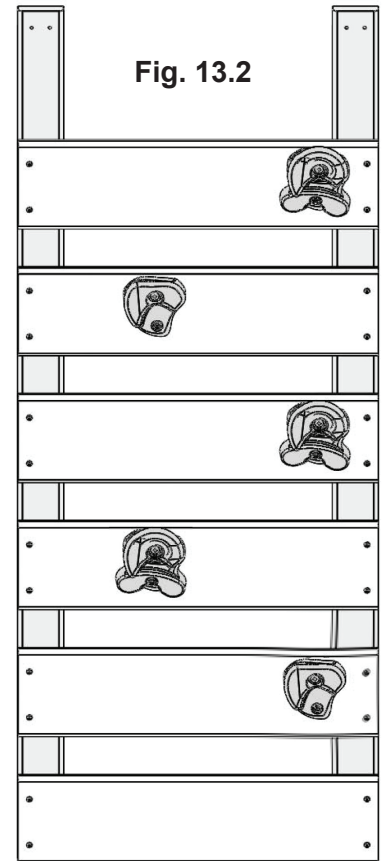

Fig. 13.1
- A:** Lay 2 (0349) Rock Rails down, side by side with angled edges facing down. (fig. 13.1)
- B:** Place (2605) Access Board on the bottom of each (0349) Rock Rail as shown in fig. 13.1. Make sure (2605) Access Board is flush to the outside and bottom edges of each (0349). Attach using 4 (S20) #8 x 1-3/8" Wood Screws.
- C:** 7-5/8" down from the top of both (0349) Rock Rails place 1 (2604) Rock Board B, making sure the sides are flush to the outside edges of each (0349) Rock Rail. Attach using 4 (S20) #8 x 1-3/8" Wood Screws. (fig. 13.1)
- D:** In between the (2605) Access Board and (2604) Rock Board B stagger 2 (2604) Rock Board Bs and 2 (2603) Rock Board As using 4 (S20) #8 x 1-3/8" Wood Screws per board. Placing them as shown in fig. 13.1, this will prevent rocks from forming a straight line. Make sure the boards are evenly spaced and do not exceed 2-3/8" between boards.